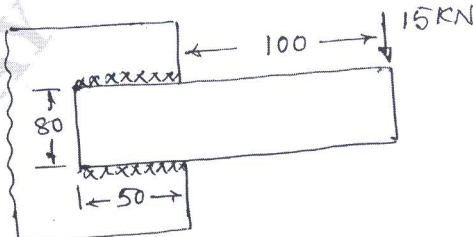

Fig.Q8(a)
- 8 a. A bracket having a load of 15 kN is to be welded as shown in Fig.Q8(a). Find the size of weld required, if allowable shear stress is not to exceed 80 N/mm².